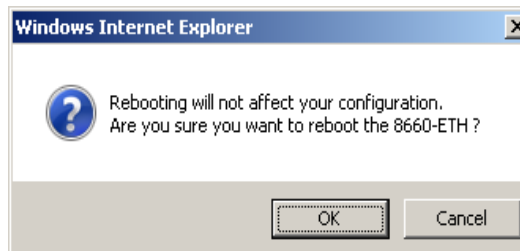

Figure 2-7: Reboot Message
2. When the message in Figure 2-7 appears, click **OK** to reset your PlugLAN 8660 SmartBridge (or click **Cancel** to not reset it).